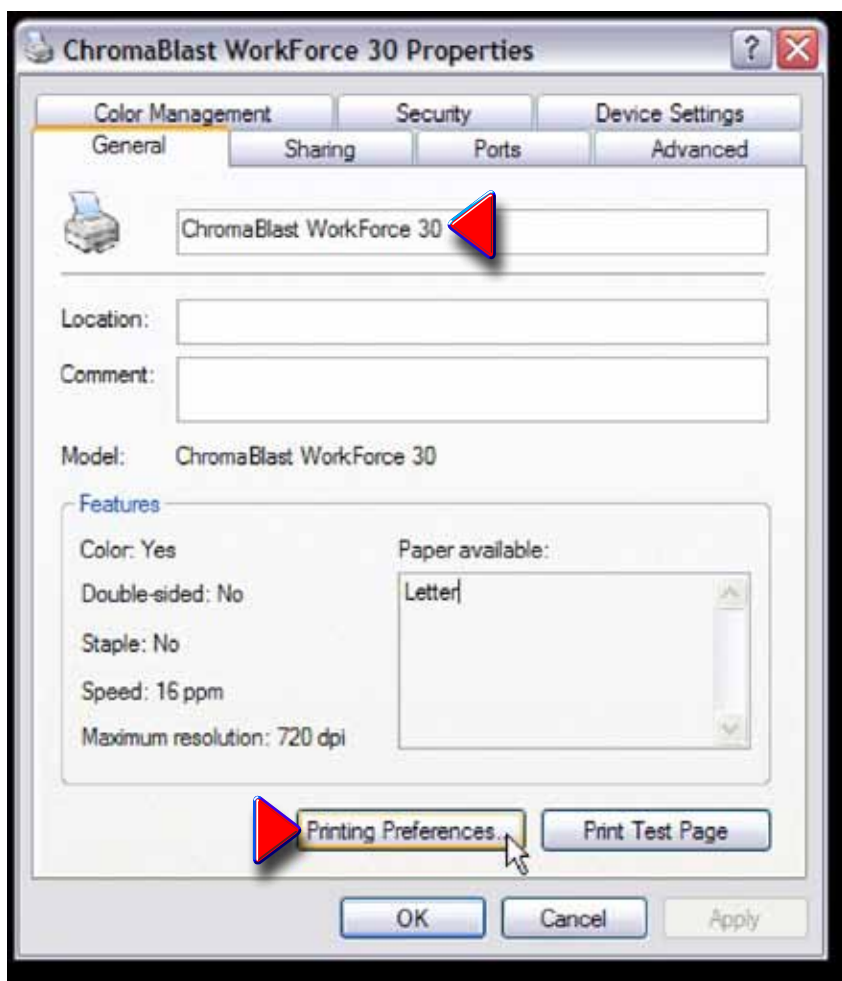
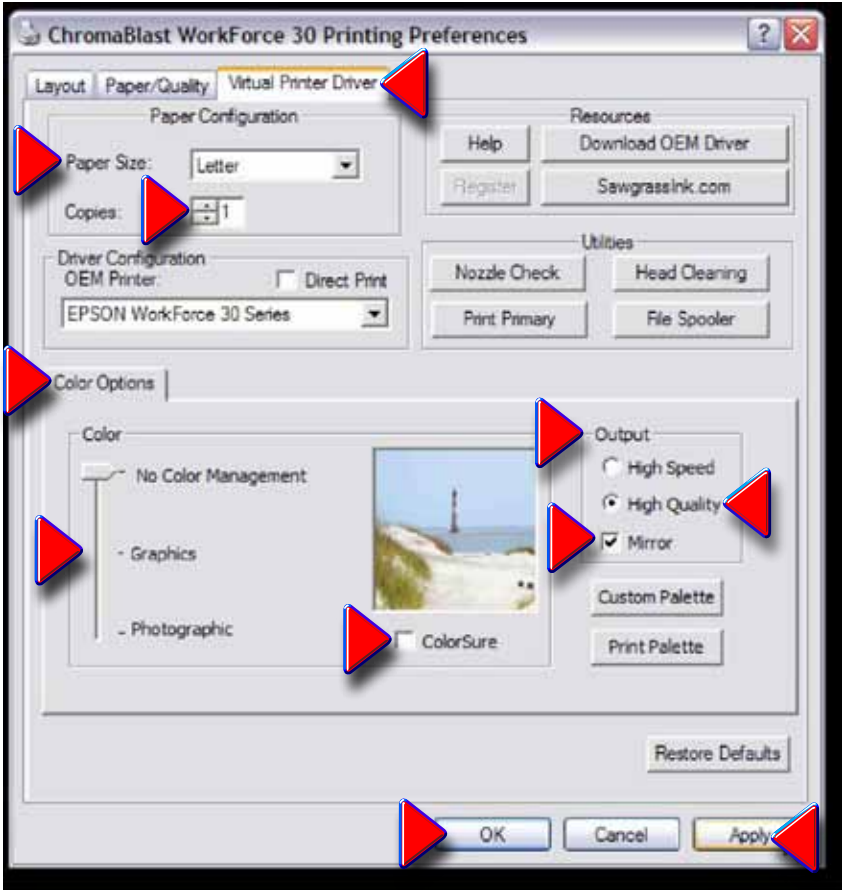

Figure 3
Figure 4
3. In the “**ChromaBlast WF 30 Properties**” Window, click on the “**Printing Preferences**” Button near the bottom of the screen in **Fig. 3**.
4. In **Figure 4**, you must set preferences according to the printing you require, either **“Photographic”**, **“Graphics”**, or **“No Color Management”**. You need also choose **Paper Size**, **Number of Copies**, **“High Speed”** or **“High Quality”**, **“Mirror”** or not, and **“ColorSure”** Involvement, if any. Once this is done, click on **“Apply”**, then click **“OK”** to return to the **“Properties” Window (Fig. 3, Page 35)**. Once again, click on **“Apply”**, then click **“OK”**, returning you to the **“Printers and Faxes” Window in Fig. 2**.